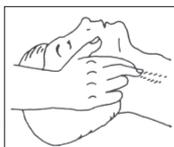
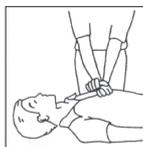
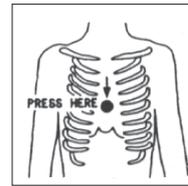

Figure 3
Figure 4
Figure 5
- Check carotid pulse (Figure 3); if pulse is absent, begin artificial circulation (Figure 4) depressing sternum (Figure 5).